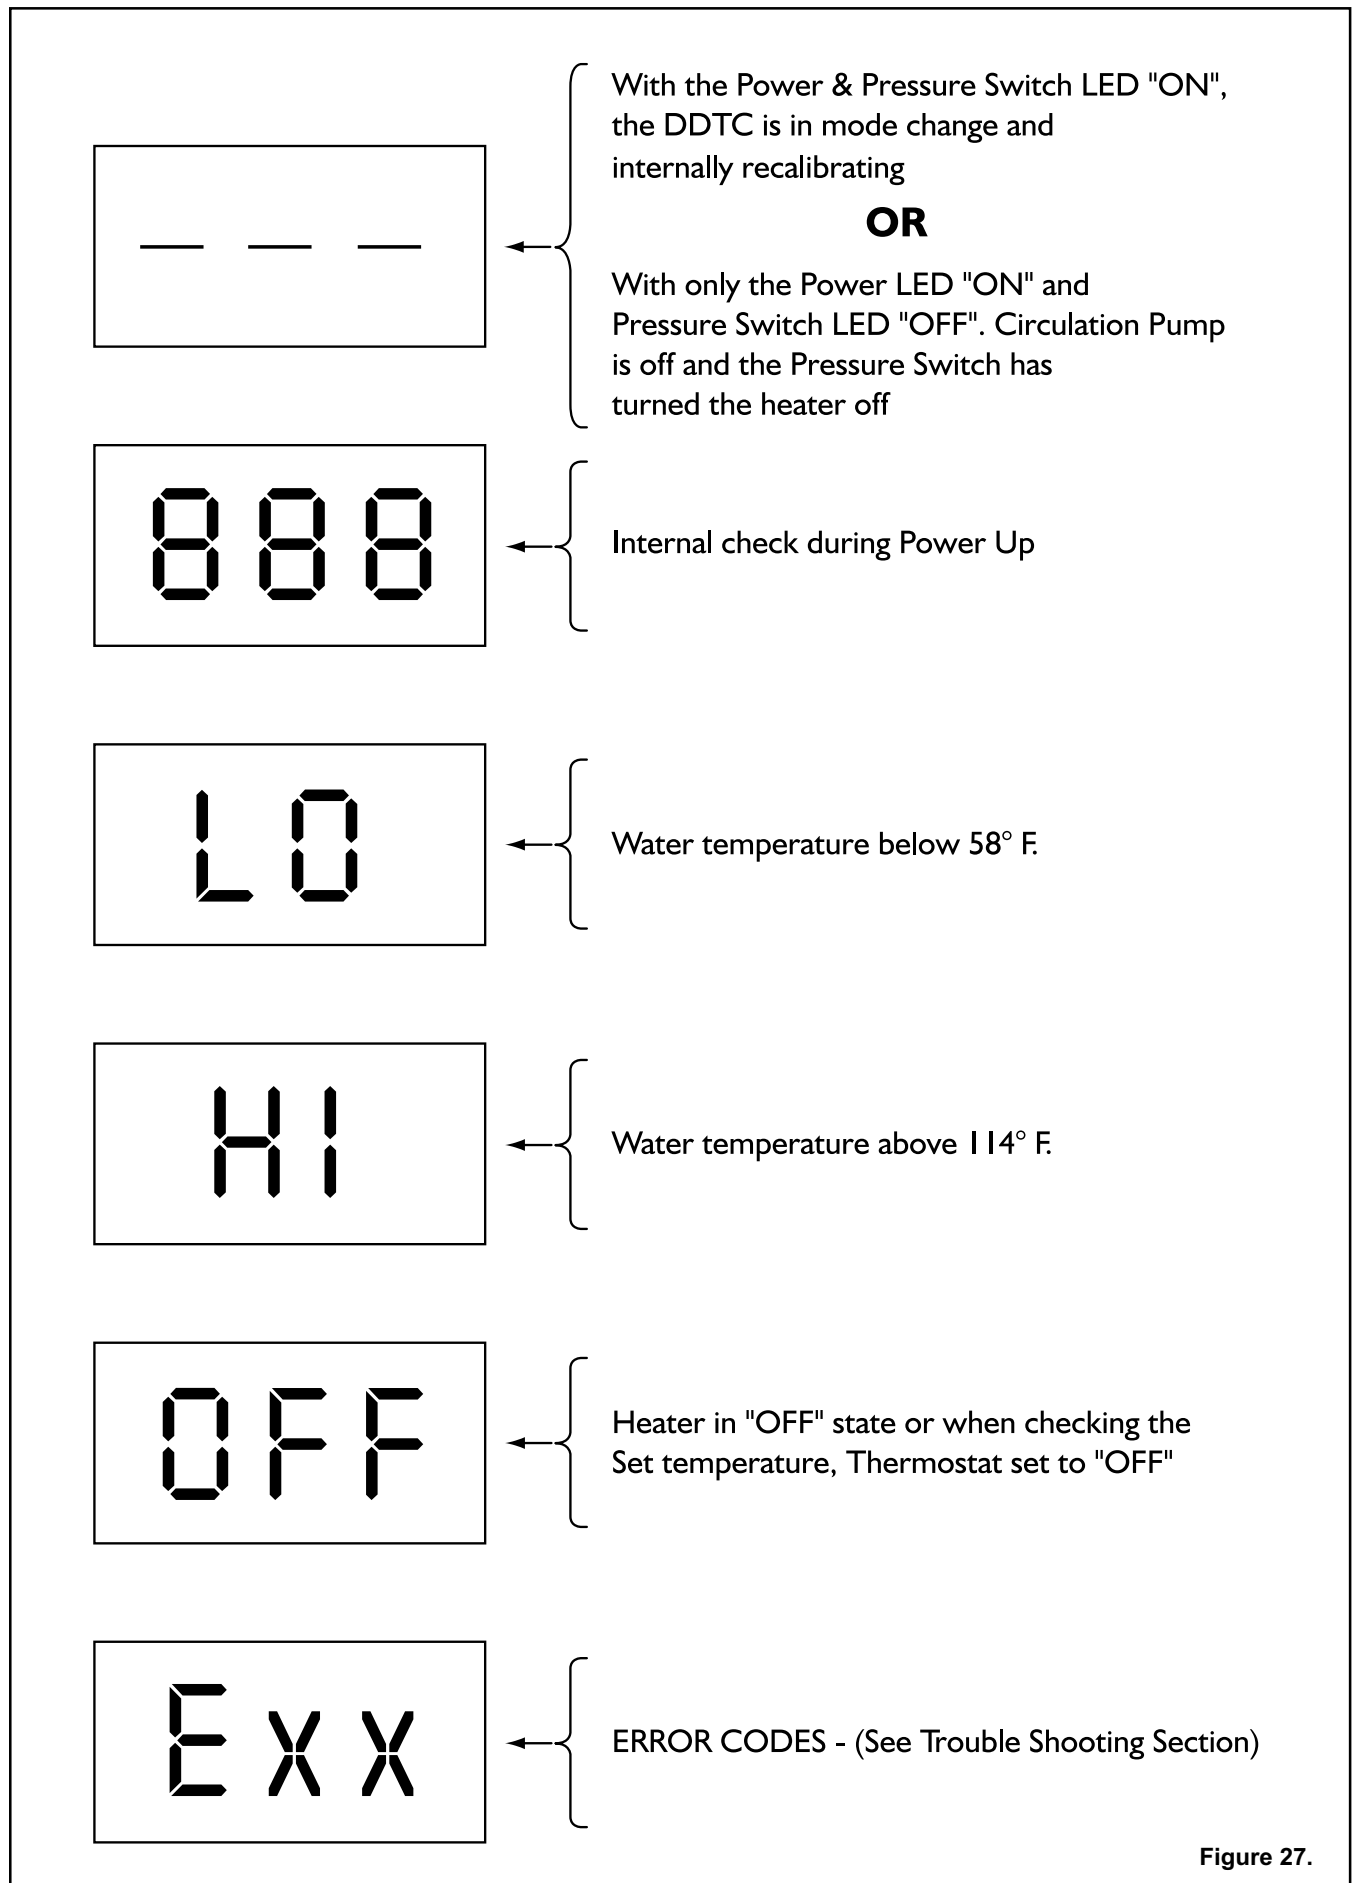

Figure 27.
The MiniMax NT Heater comes from the factory preset with a pool temperature setting of 78° F. and a preset spa temperature of 100° F., and in the off mode setting. Once the power is turned on, the DDTC board will do a self diagnostic internal check, during this time the display will first read “888”, then the display will switch to three dashes “- - -”, this process takes approximately ten (10) seconds. The DDTC will then illuminate the “Power” LED and “Off” LED, see Figure 27.
The DDTC temperature display contains three LED's with a decimal point between the first and second, this display is also used to display an error code if for some reason there is a failure within the heater control system or a DDTC internal fault. The DDTC will display the actual temperature or set-point temperature or OFF, as selected by the user. When DDTC detects an error, the display will show Exx, see Figure 27, where Exx is the error code of DDTC fault, see Table 13. Codes 1 through 9 indicate a "soft lockout" error that means after these errors are fixed, the heater will resume normal operation and restart immediately. Code ERR indicates a "hard lockout" error that means after these errors are fixed, you need to reset the power of the heater through the switch on the bottom of the electrical junction box on the right side of the cabinet.